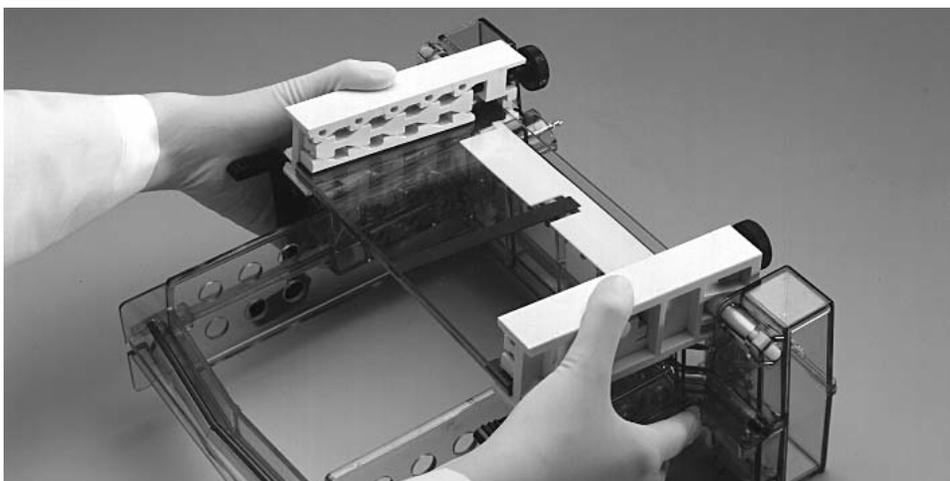

Fig. 8.1. Attaching the sandwich assembly on to the core.
3. With the short glass plate facing the core, position the gel sandwich so that the locating pins on the core are fitted into the grooves on the outside surface of the sandwich clamps (Figure 8.1). The gel sandwich should be positioned at an angle of 20° with the core. Keeping this angle to a minimum will prevent distortion of the gasket while the sandwich slides into place.
4. With your fingers below the latch on the core and your thumbs resting on the bottom of the sandwich clamps, gently push the gel sandwich down onto the core with one simple motion. You should be able to hear a click. The upper edge of the short inner glass plate should be seated against the notches of the U-shaped gasket and the tabs of each clamp should be held securely against the latch assemblies on both sides of the core (Figure 8.1).